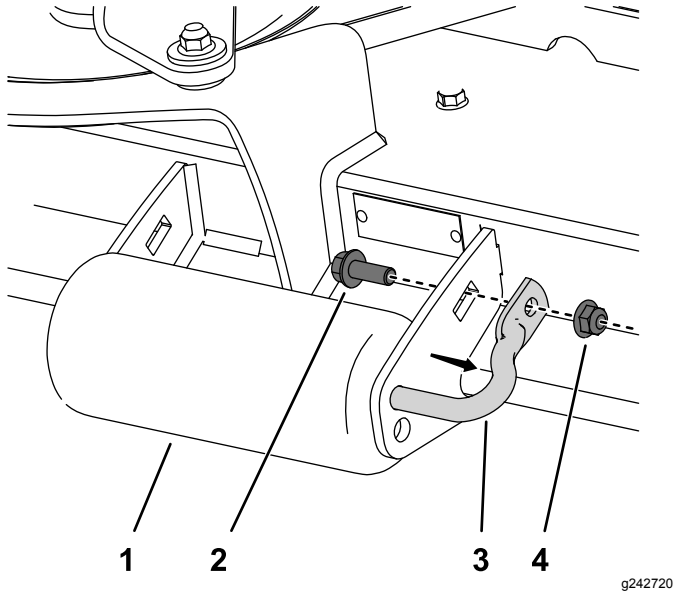

Figure 15
1. Remove the hardware from the roller shafts (Figure 15).